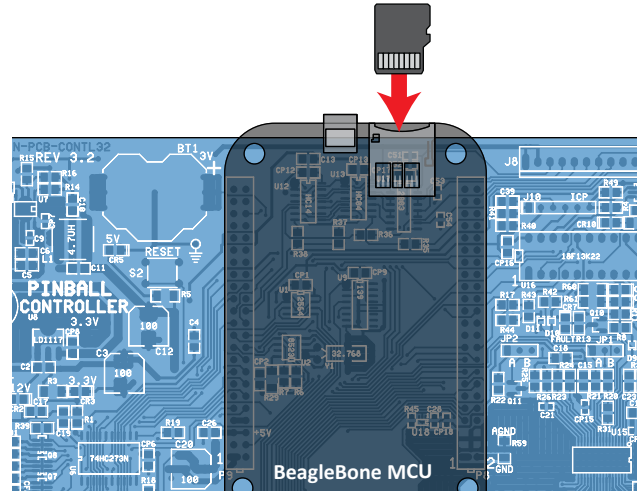

Figure 4-10. Inserting the microSD card into the BeagleBone board.
10) With the power off, remove the game's backglass, open the insert door and install the microSD card in the slot at the top of the BeagleBone board (figure 4-10), with the label facing the back of the game. The card will slide in and click-lock in place.